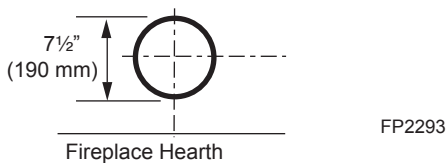

Figure 26 - Locate Vent Opening on Wall
Locate vent opening on the wall. It may be necessary to first position the fireplace and measure to obtain hole location. Depending on whether the wall is combustible or noncombustible, cut opening to size. *Figure 26* (For combustible walls first frame in opening.)
Combustible Walls: Cut a 9⁵/₈"H x 9⁵/₈"W (244 x 244 mm) hole through the exterior wall and frame as shown. *Figure 26*
1. Establish vent hole through the wall. *Page 22, Figure 26*